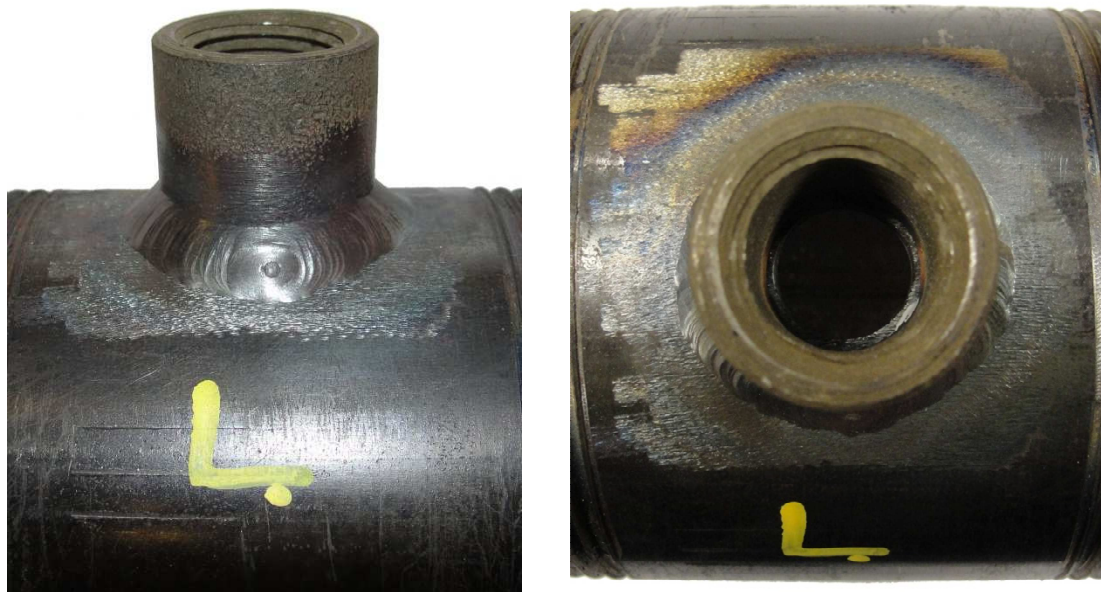

Figure 3: $\frac{1}{2}$ " NPT Half Coupling Welded to Pipe with $\frac{1}{2}$ " Hole Drilled Through Center
5. If a $\frac{1}{2}$ " NPT or larger half coupling is not available in a suitable location, one will need to be welded onto the pipe with a $\frac{1}{2}$ " or larger hole drilled through the pipe wall in the center of the coupling. After this is completed, the assembly should look like Figure 3.